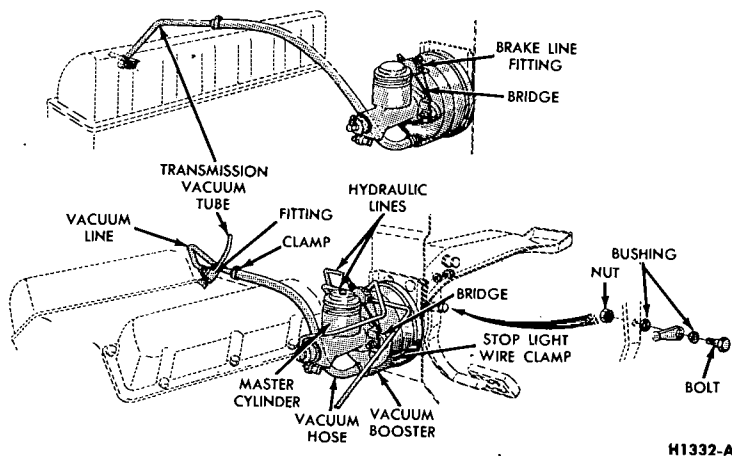

FIG. 14—Vacuum Booster Installation
3. Disconnect the hydraulic line from the master cylinder and from the multiple fitting on the bridge (Fig. 14). Disconnect the three remaining lines from the fitting.
5. Working from inside the car, remove the bolt that attaches the booster push rod to the brake pedal (Fig. 14).
1. Position the booster and mounting bracket on the dash panel (Fig. 14).